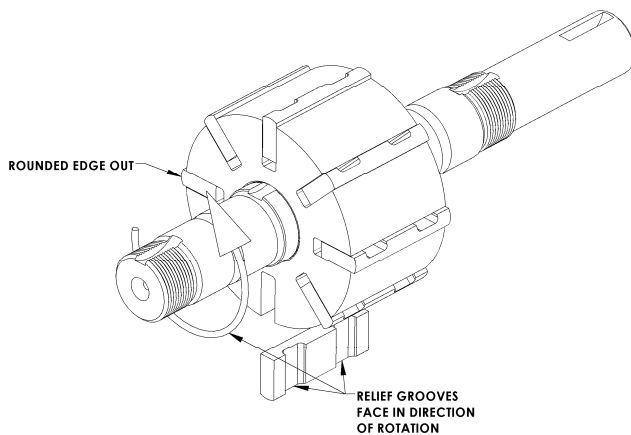
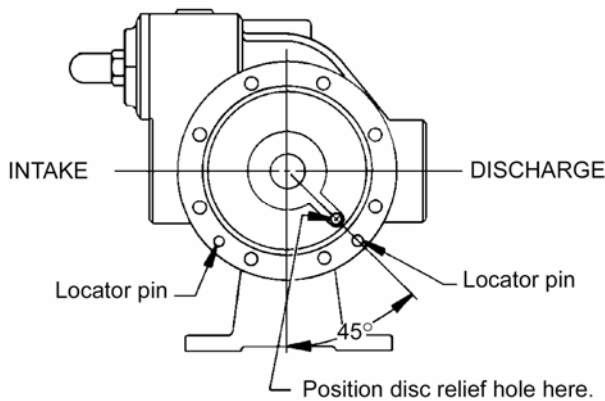

Figure 6 – Vane Replacement
Figure 7 - Disc Relief Hole Location
3. Turn the shaft by hand until a vane (14) comes to the top (12 o'clock) position of the rotor. Remove the vane.
4. Install a new vane (14), ensuring that the rounded edge is UP, and the relief grooves are facing towards the direction of rotation. See Figure 6.
1. Align the liner keyway with the setscrew (74) that extends down into the pump casing (12) and start the liner (41) into the casing. The word "INTAKE" cast on the liner must face the intake port of the pump casing. Uniformly tap the outer edge of the liner with a rubber mallet to fully insert into the casing.
2. Place the disc (71) against the liner (41) with the seal cavity outward and disc relief hole located as shown in Figure 7.
3. Without installing the head O-ring (72) or mechanical seal components, temporarily attach the outboard head (20) and bearing (24) to the casing (12). Install and hand-tighten two head capscrews (21), 180 degrees apart. This head will be used to hold and align the rotor and shaft (13) while the inboard side of the pump is assembled. **NOTE: It is a good practice to attach pump heads to the same ends they were removed from.**
4. Before installing the rotor & shaft assembly (13), the direction of pump rotation must be determined as follows: If the pump is to be **right-hand** with **clockwise** rotation, the intake port and the relief valve must be on the **right** with the drive end of the shaft pointing towards the observer. If the pump is to be **left-hand** with **counterclockwise** rotation, the intake port and the relief valve must be on the **left** with the drive end of the shaft pointing towards the observer.
5. Remove the vanes (14) and push rods (77 - if equipped) from the rotor and shaft assembly (13). Inspect for wear and damage, and replace as follows:
- a. Insert the vanes (14) into the bottom rotor slots with the relief grooves facing in the direction of pump rotation, and with the rounded edges outward. See Figure 6.
- b. If the pump is equipped with the four-vane rotor and shaft (13A), hold the two bottom vanes (14) in place while inserting the two push rods (77).
- c. After the bottom vanes (14) (and push rods, (77 - if equipped) are installed, carefully insert the non-driven end of rotor and shaft into the casing (12).
- d. Install all remaining vanes (14) into the top positions of the rotor.
6. Install the disc (71) on the inboard side of the pump with the seal cavity facing outward and the disc relief hole located as shown in Figure 7.
7. Install a new head O-ring (72) in the groove between the disc (71) and the casing(12).